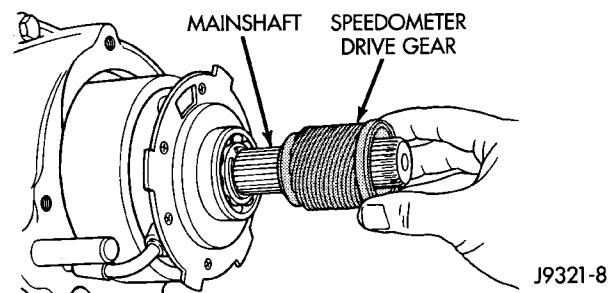

Fig. 17 Speedometer Drive Gear Removal
(6) Remove speedometer drive gear (Fig. 17).
(7) Remove rear bearing snap-ring.
(8) Remove rear bearing. Note position of bearing locating ring groove for assembly reference.